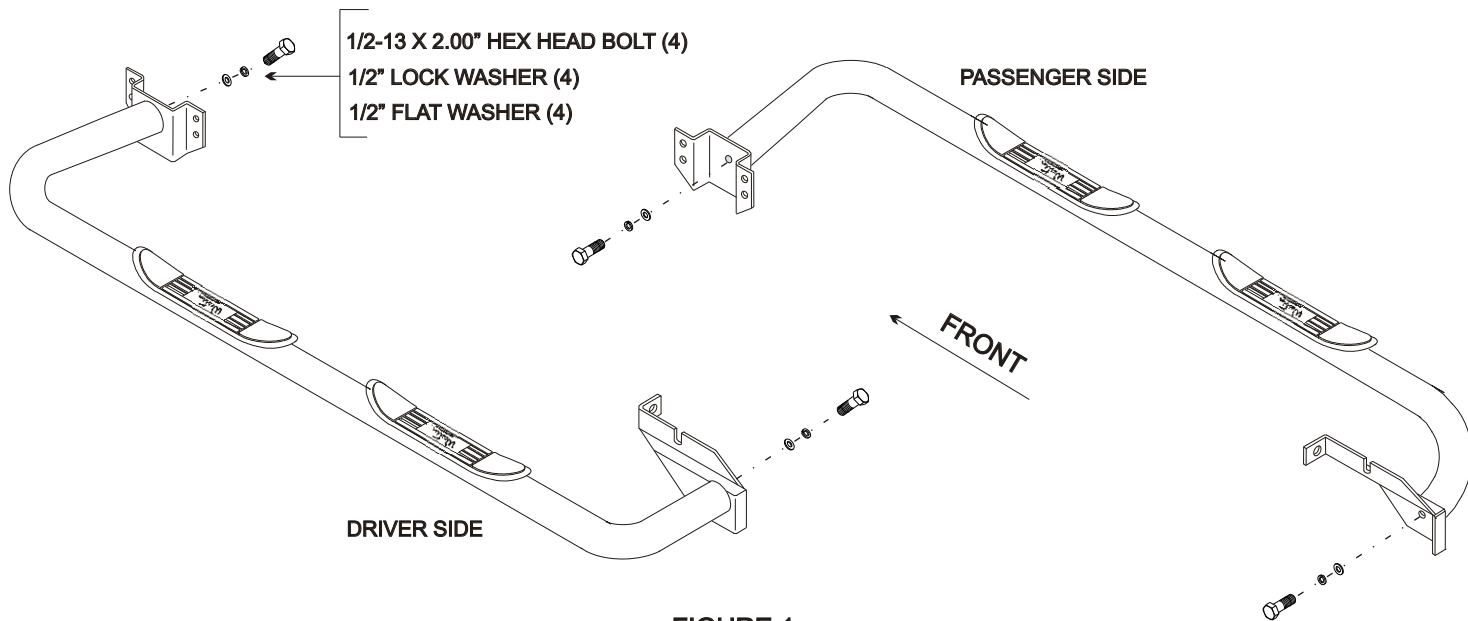

FIGURE 1
- STEP 3. Install both Front and Rear Mounting Brackets onto Step Bars using (4) 1/2-13 x 2.00" Hex Head Bolts, (4) 1/2" Flat Washers and (4) 1/2" Lock Washers. Leave loose. **See Figure 1.**